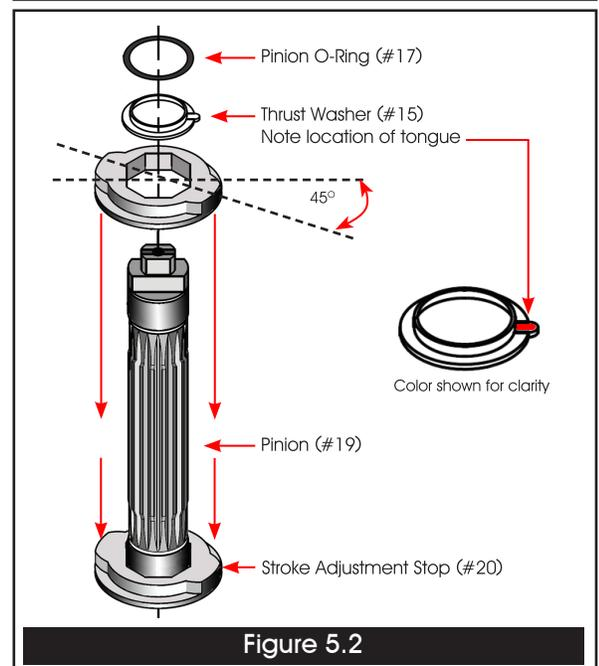

Figure 5.2
2. If the Stroke Adjustment Stop (#20) has been removed from the Pinion (#19), insert it back into place. Make sure the Stop Protrusions are at 45° to the NAMUR slot (Figure 5.2). There are two grooves on the bottom of the Stop which will help identify the stop orientation.